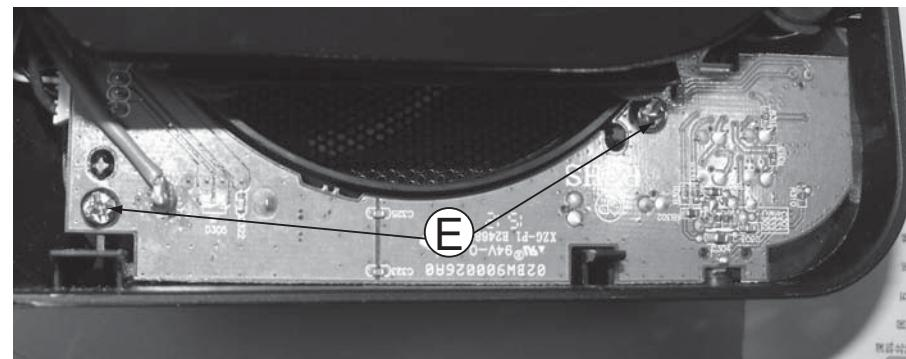

Figure 5
- 1) Loosen 2 screws "E" on the top of MP3&USB&KARAOKE board as shown in figure 5 to remove it.